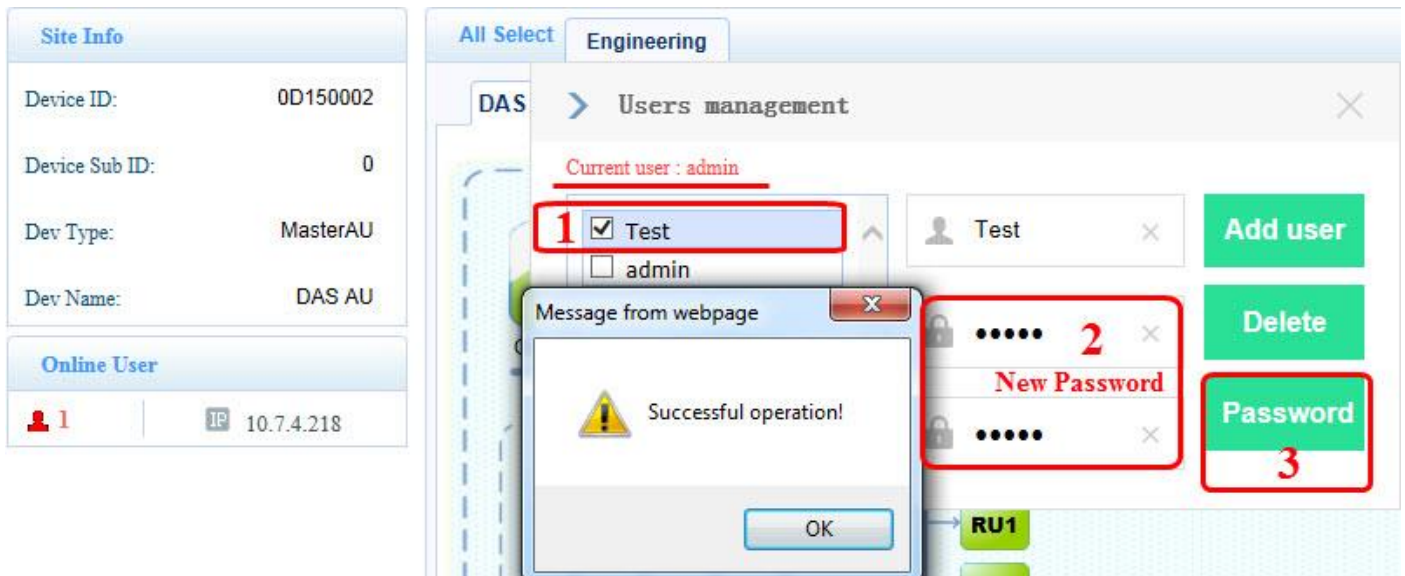

Figure 2-17 Change Password
- a) Choose the user need to change password. See **1** in the Figure 2-17.
- b) Enter the new password and confirm. See **2** in the Figure 2-17.